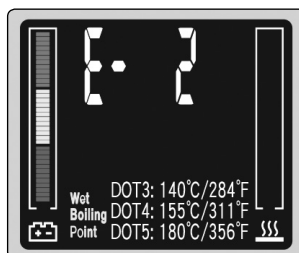

Fig.7
4.6.5.2. E-2: means either the voltage is too low (lower than 10.8V) or the voltage is too high (higher than 15.7V), see fig.7.